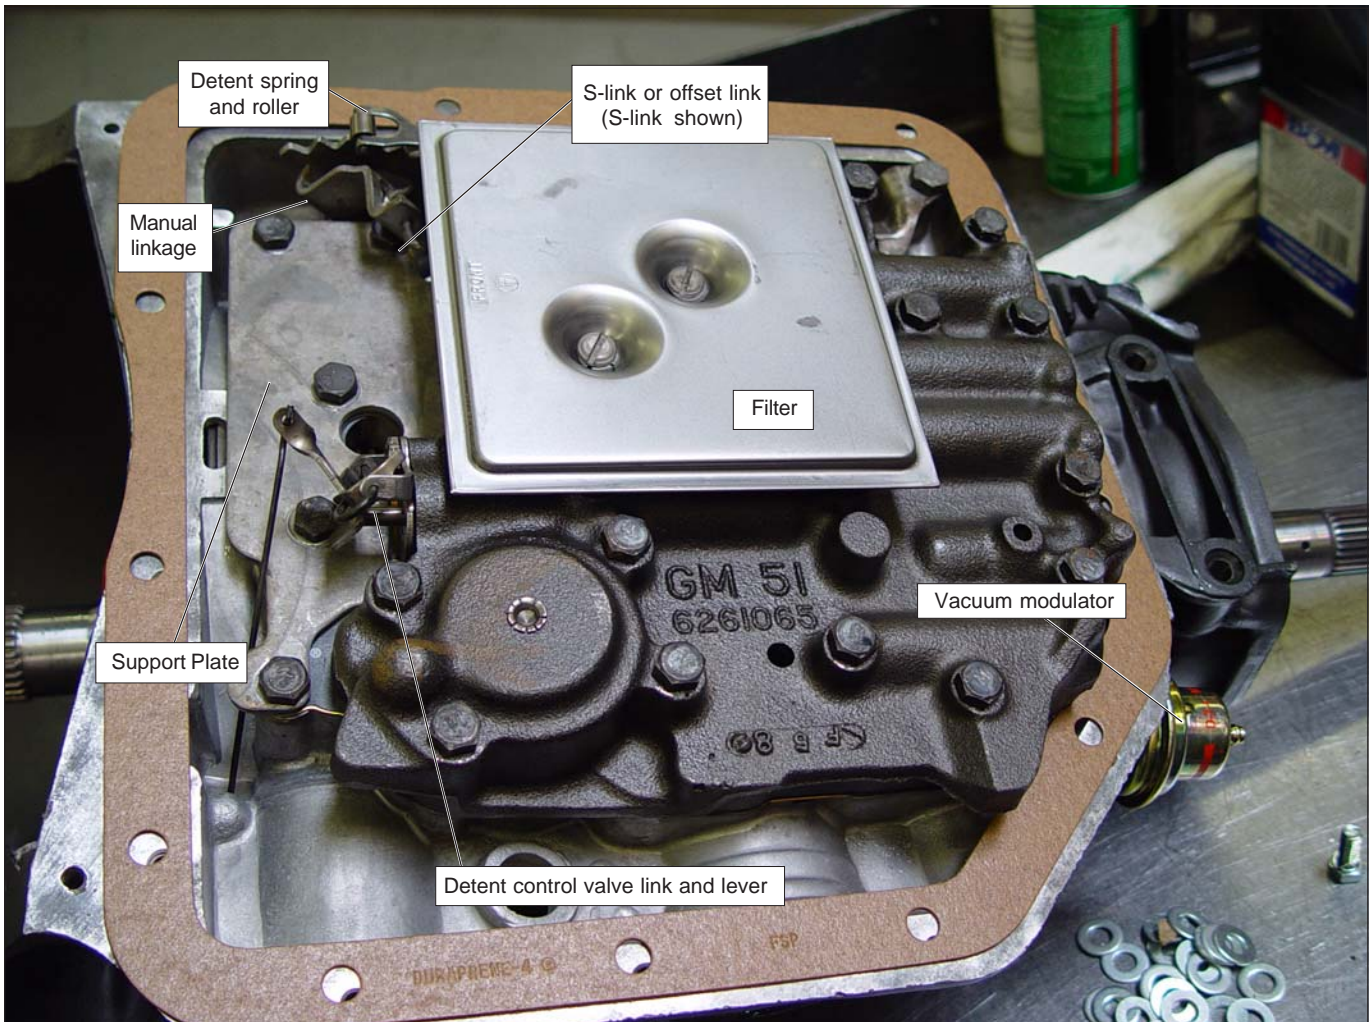
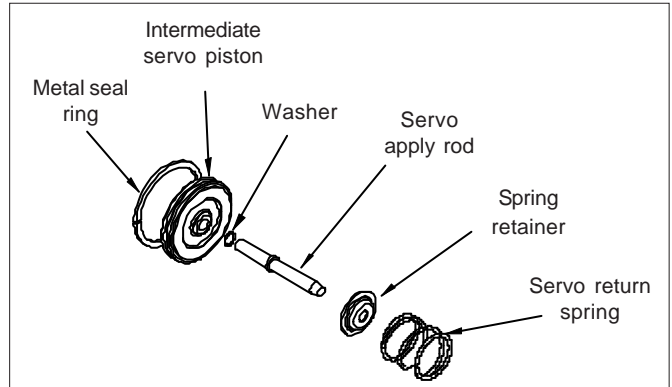

Figure 1
Figure 7A
STEP 2. Use a screwdriver to remove two screws and remove the oil filter and filter gasket. Put them in the oil pan. (See Fig. 1)
STEP 3. Observe the location of the following: (See Fig. 1) Manual linkage, detent spring and roller, s-link or offset link, detent control valve link and lever, and support plate.
STEP 5. Remove support plate bolts and support plate. (See Fig. 1) Remove separator plate, gaskets and four plastic check balls. Leave the drain pan positioned as there is still oil between the separator plate and the case. The check balls are between the plate and the case. If the front servo assembly falls out, install it back in position with grease to retain it. Order of assembly is: Spring, spring seat, pin, washer and piston. (See Fig. 7A)